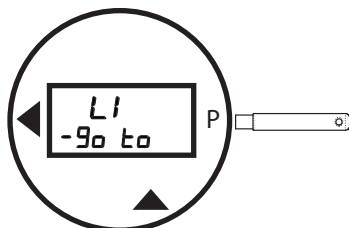

Figure 18.
- Pass the wand over the **P** until you reach the **L1 -Go to** menu selection (Figure 18).